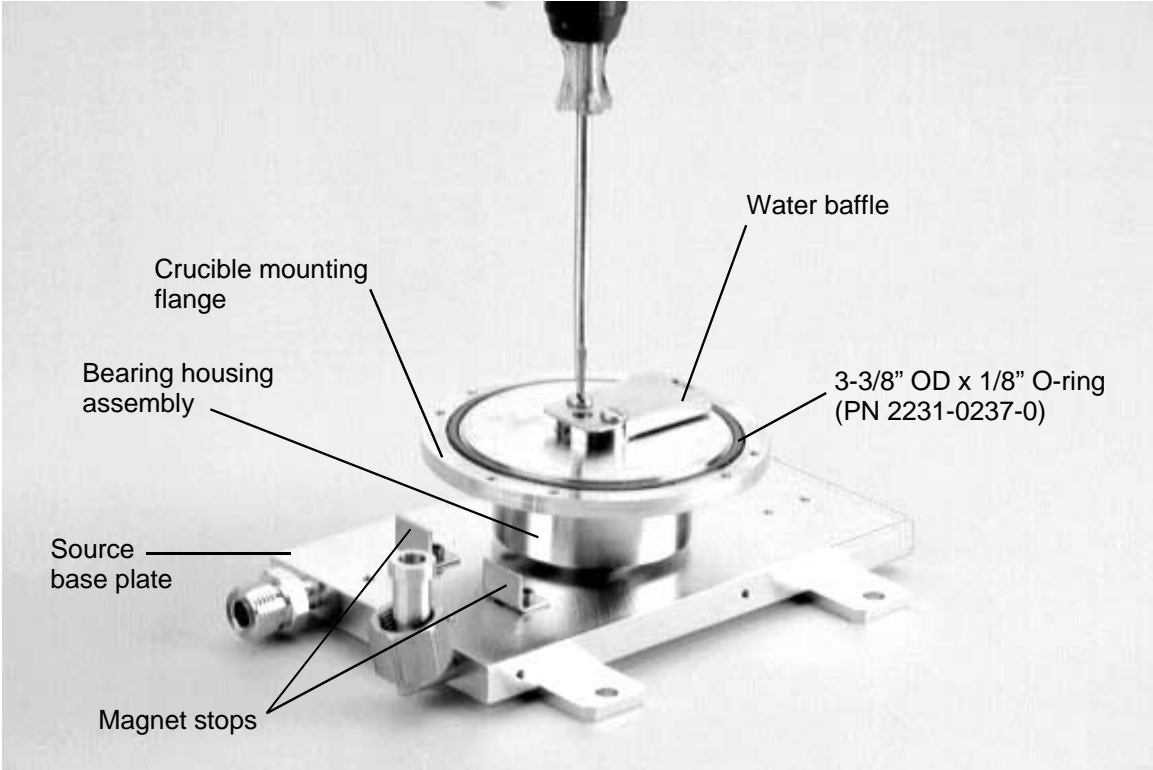

Figure 5-17. Removing the water baffle
Step 10: Secure the water baffle to the top of the pivot shaft, using the pan-head screws provided (see Figure 5-17). Before doing so, make sure that the water baffle points in the same direction as the water notch in the top of pivot shaft.
Before replacing this assembly back on the source baseplate, apply low vapor pressure grease (Apiezon L or equivalent) to the O-ring that fits between the baseplate and the pivot shaft and place this O-ring in the groove in the bottom of the pivot shaft. After attaching the bearing housing assembly to the baseplate, make sure that the water baffle points toward the front of the source, as shown in Figure 5-17.